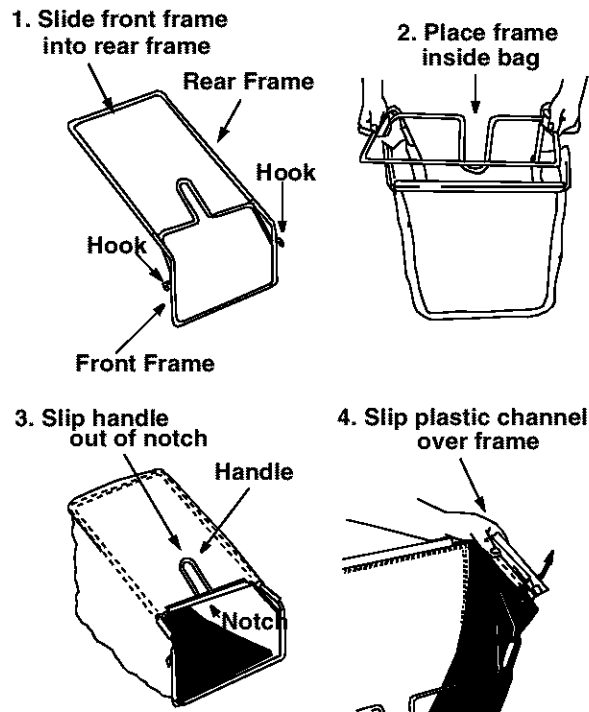

Figure 6
- Slip the plastic channel of the bag over the frame (adjacent to the handle of the grass catcher) as shown in Figure 6. Make sure that the handle of the grass catcher protrudes *out* of the notch in the plastic channel on bag.
- Secure bag to the frame by working the plastic channels on bag over the frame on the other sides as shown in Figure 6.